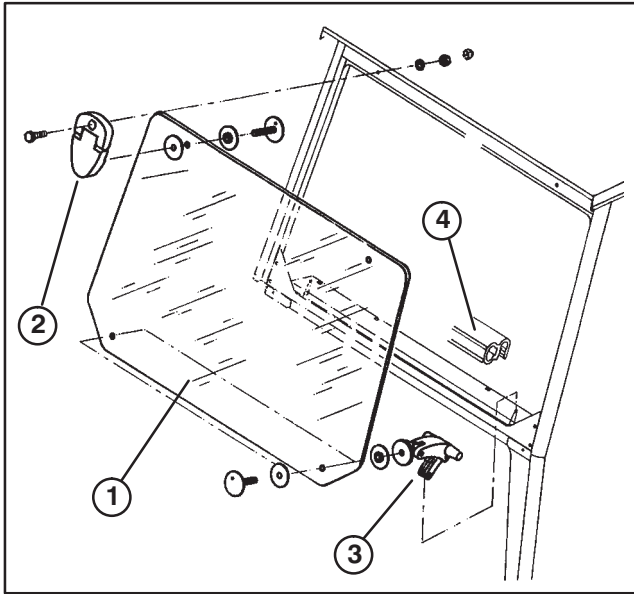

Figure 14
31. Lift cab onto vehicle while guiding rear corner brackets onto the vehicle ROPS receiver brackets. (Fig. 14). Make sure wire harness from bottom of left side door frame is routed to inside of cab.
43. Loosely install a hinge to each of the top holes in front window with a screw and (2) washers (Fig. 14).
44. Loosely install a push-out crank to each of the bottom holes in front window with a screw and (2) washers (Fig. 14).
45. Insert window onto weather-strip seal of front opening, while aligning hinge mounting holes with holes in upper front support (Fig. 14). Tighten hinge mounting screws finger tight.
46. Secure each hinge to support with a plastic capscrew, washer and nut. Install a cap over each nut (Fig. 14).